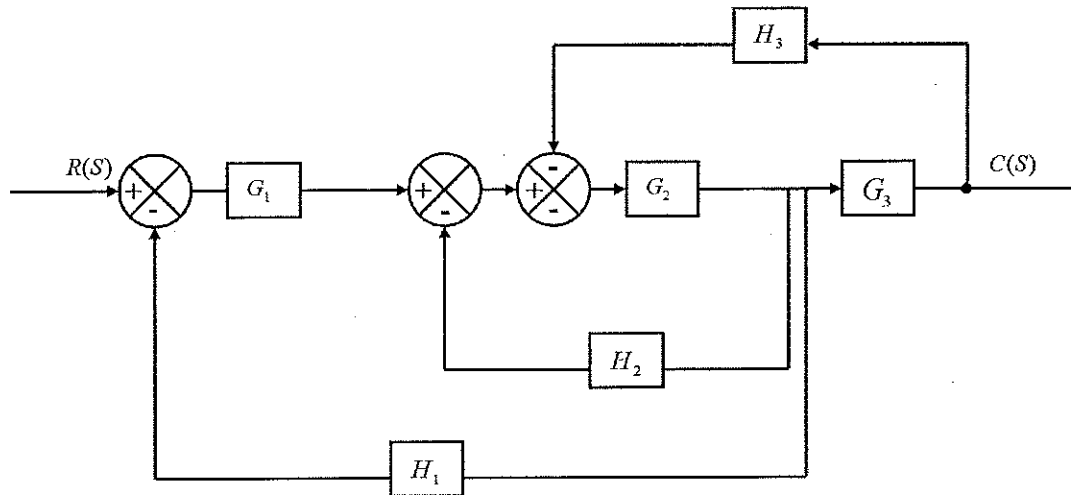

Figure Q3
- (a) Reduce the block diagram shown in figure Q3 to a single transfer function. [10 Marks]